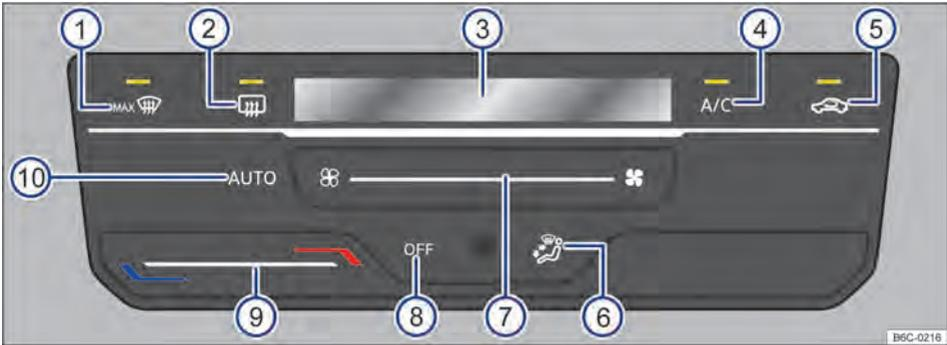
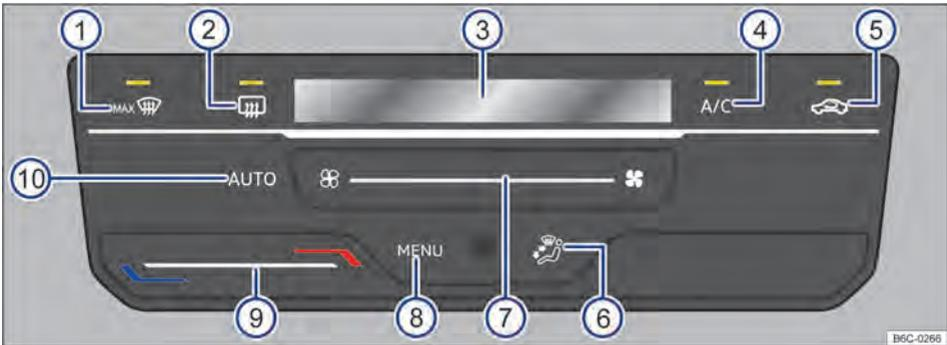

Fig. 80 Climatronic controls (variant 1).
Fig. 81 Climatronic controls (variant 2)
- Touch the function button **OFF** / → Fig. 80 ⑧
- **OR** Slide your finger to the left under the function surface → Fig. 81 ⑦, then press the left-most button.
When touching the function button **AUTO** → Fig. 80 ⑩ it is possible to switch on the Climatronic automatic mode.
The automatic mode ensures constant temperatures in the vehicle interior. The air temperature, the air volume and its distribution is automatically regulated. Automatic operation turns off when ventilation is changed manually → Fig. 80 or
→ Fig. 81 ⑦ or by changing the air distribution across the function button → Fig. 80 or → Fig. 81 ⑥.
- Touch the function button **A/C** → Fig. 80 or → Fig. 81 ④ to turn on and off the cooling functioning.
- Slide your finger under the function button → Fig. 80 or → Fig. 81 ⑨.
On the Climatronic display → Fig. 80 or → Fig. 81 ③ the set temperature is displayed. ▶
- Slide your finger under the function button → Fig. 80 → Fig. 81 (7).
- Touch the function button  → Fig. 80 or → Fig. 81 (5).
- Touch the function button → Fig. 80 or → Fig. 81 (6) on the desired position, the selected distribution will be indicated on the display (3).
- Touch the function button  → Fig. 80 or → Fig. 81 (1).
- Touch the function button  → Fig. 80 or → Fig. 81 (2).
For vehicles with VW Play, press **MENU** → Fig. 81 (8) to open the air conditioning menu on the radio.